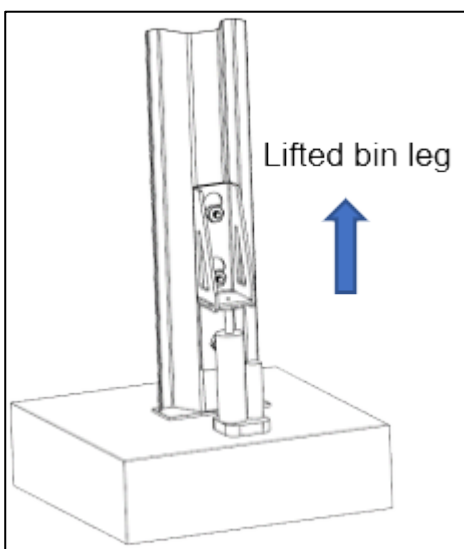

Figure 15: Jack under Adapter
5. Place the jack under the adapter (Figure 15) and raise it about 1 inch.